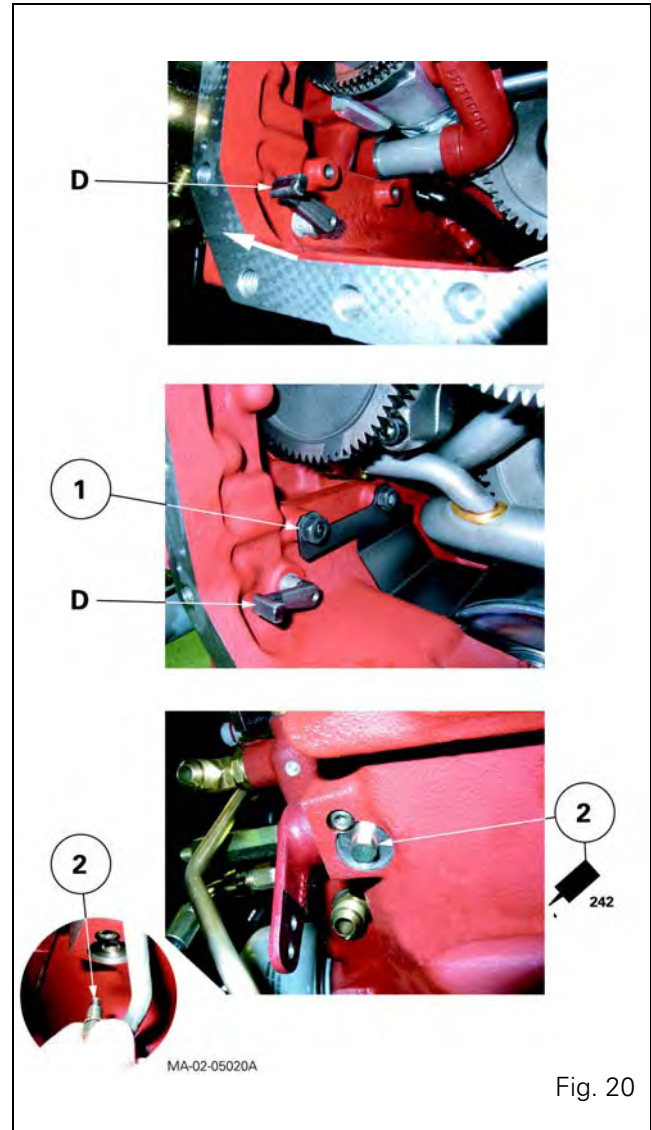

Fig. 20
NOTE: The rotation of the creeper gears control finger "D" is limited by the presence of the studs and nuts assembly (1) in the centre housing (tractors with closed centre hydraulics—Fig. 20).
79. Pull the pin (2) outwards (Fig. 12) and direct the "D" finger towards the front of the centre housing (Fig. 20).
NOTE: Engage the "D" finger (Fig. 20) in the creeper gear fork and position the seal on the screw (2) (Fig. 20) after lightly smearing it with Loctite 242 or equivalent. Tighten the screw moderately.